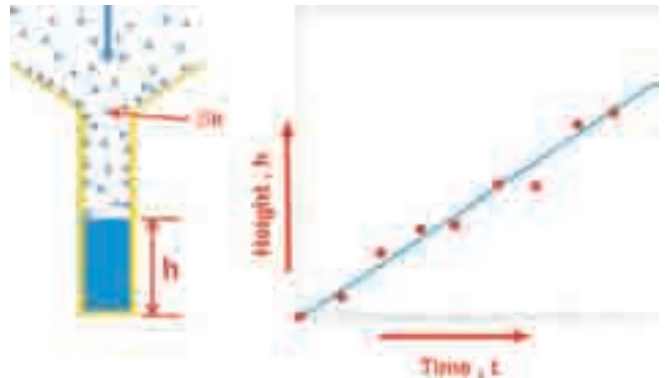

Fig.2. Standard rain gage with hypothetical data set and fitted linear curve.
Every measured arc height, h , is the sum of a very large number of individual δh contributions. We therefore have features in common with a rain gage. Fig.2 shows the principle involved in rain measurement. Each raindrop will make a tiny contribution, δh , to a measurable height, h , of rainwater collected over a time period, t . The measured height will also depend on the rate, r , of drops entering the gage. Hence:
Equation (2) is a straight line. Estimation of that straight line could be achieved by taking measurements of h at different times, t , as shown in fig.2. Measurements have statistical variability and can therefore only be indicators of a known, behavior pattern. In 1805, Legendre introduced the procedure of "least squares" as a method for arriving at a 'best' estimate for a known pattern. Since then, up until the computer era, generations of engineers endured the tedium of having to determine, manually, the 'normal equations' that defined the best-fit equation for each data set.
One obvious difference between the curves shown in figs.2 and 3 is their shape. Peening of Almen strips must therefore involve a reduction of δh with increase of peening time.